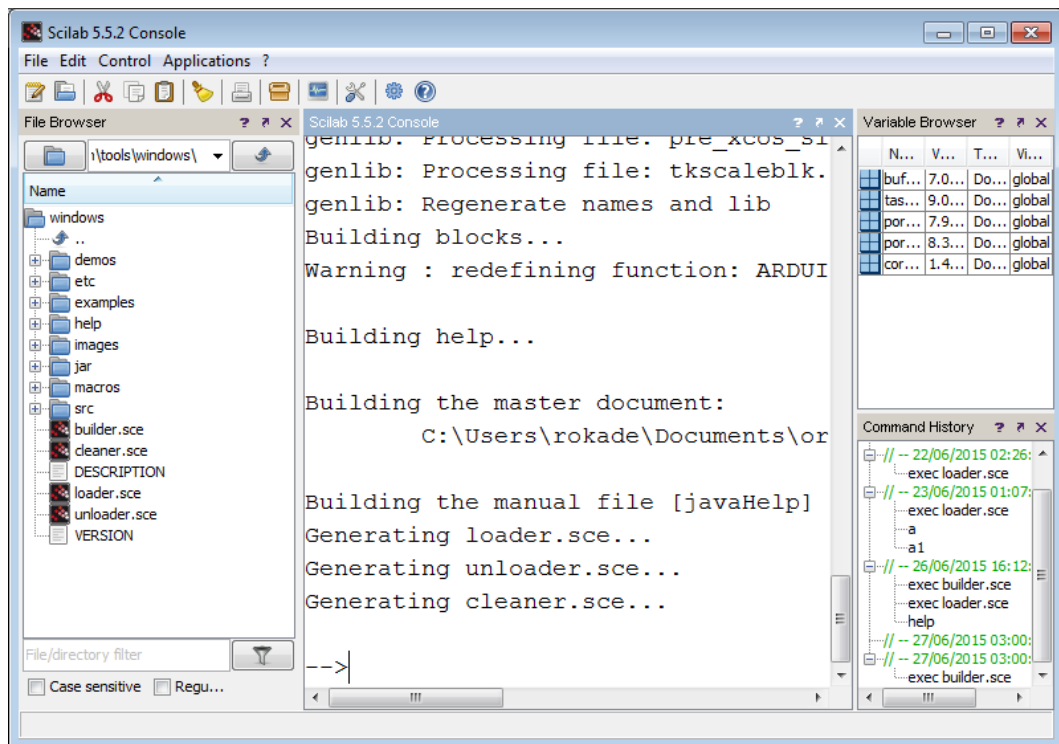

Figure 3.8: Output of builder.sce
4. After the previous step, the Scilab working directory becomes the toolbox folder. See the **file browser** panel on the left-hand side of the Scilab console, see Fig. 3.8. It will list out the contents of your current working directory. For a check, look for the file **builder.sce**. If you see this file, then you are in the right directory.
- this will build the toolbox and create a file **loader.sce**. This step has to be executed only the first time. The output of this step is illustrated in Fig. 3.8.